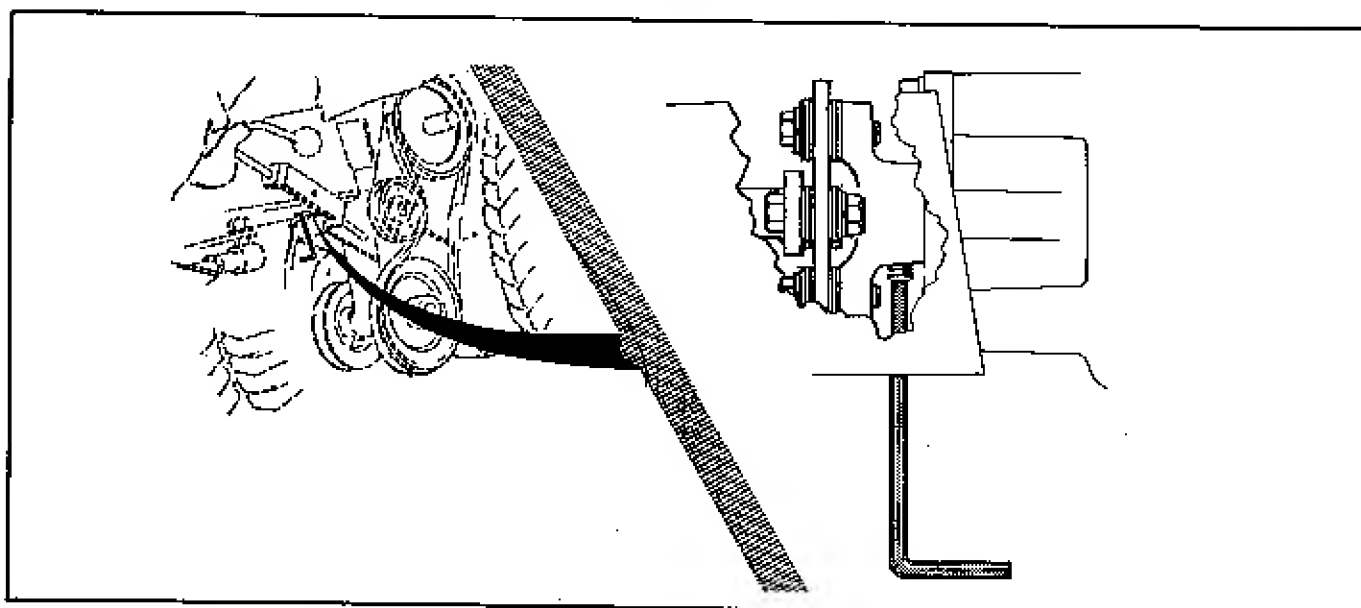

FIGURE 1A
- B. Loosen set screw on rear coupling flange through hole in bottom of frame. (Fig. 1A )